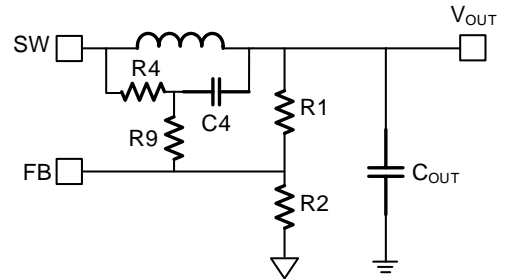

Figure 11: Simplified Circuit with External Ramp Compensation
V_{OUT} is influenced by the resistor divider (R1 + R2), as well as R4 (see Figure 11).
Add a noise-filtering resistor (R9) when designing the PCB layout (see Figure 11). R9 can be set to create a pole to reduce noise. R9 can be calculated with Equation (5):